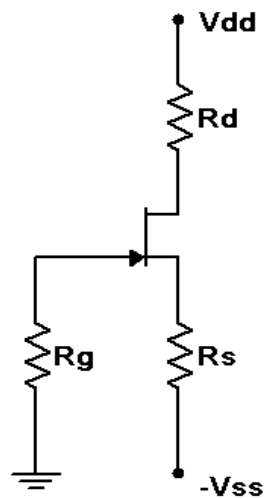

Figure 15.3
6. Consider the circuit of Figure 15.3 using  $V_{dd} = 15$  volts,  $V_{ss} = -3$  volts,  $R_g = 330 \text{ k}\Omega$ ,  $R_d = 4.7 \text{ k}\Omega$  and  $R_s = 4.7 \text{ k}\Omega$ . A reasonable approximation for  $V_{GS}$  in this circuit is  $-2$  volts DC. Based on this, calculate and record the expected voltages for JFET 1 in Table 15.4. Also record the expected drain current in Table 15.5.
7. Build the circuit of Figure 15.3 using  $V_{dd} = 15$  volts,  $V_{ss} = -3$  volts,  $R_g = 330 \text{ k}\Omega$ ,  $R_d = 4.7 \text{ k}\Omega$  and  $R_s = 4.7 \text{ k}\Omega$ . Measure and record the voltages for JFET 1 in Table 15.4. Based on  $V_D$ , compute and record the experimental drain current in Table 15.4. Also determine and record the drain current deviation.
3. In general, identify two ways of decreasing the drain voltage in the circuit of Figure 15.3.